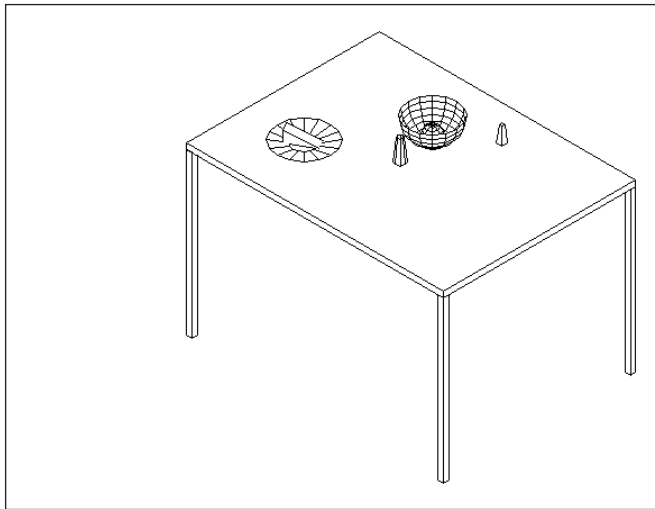

Figure 23-24: The table with a plate, wedge of cheese, bowl, orange, and nonmatching salt and pepper shakers
16. Save your drawing. It should look like Figure 23-24. If you look carefully, you'll see that the edge of the cheese wedge goes through the plate slightly.